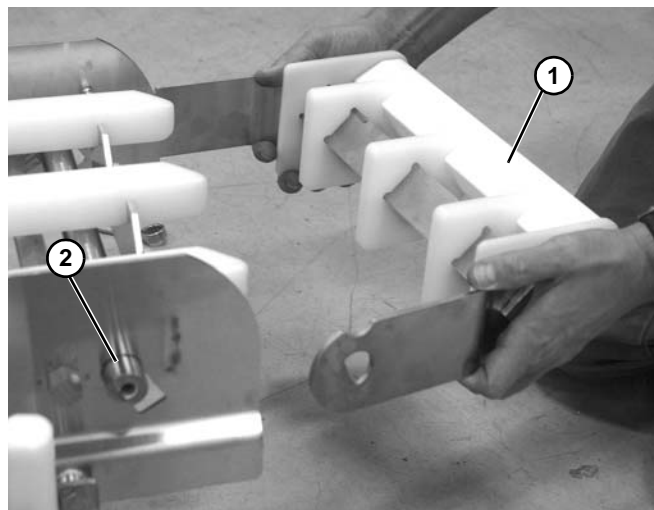

Figure 98
3. Remove nose bar idler assembly (**Figure 98, item 1**) from each end of tip up assembly (**Figure 98, item 2**) on conveyor frame.